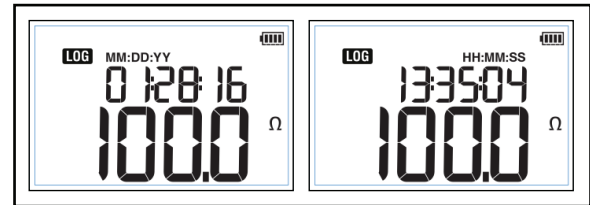

Figure 13. Timestamp
3. Push **ENTER** to toggle the display to show the time or date for the logged measurement. See Figure 13.